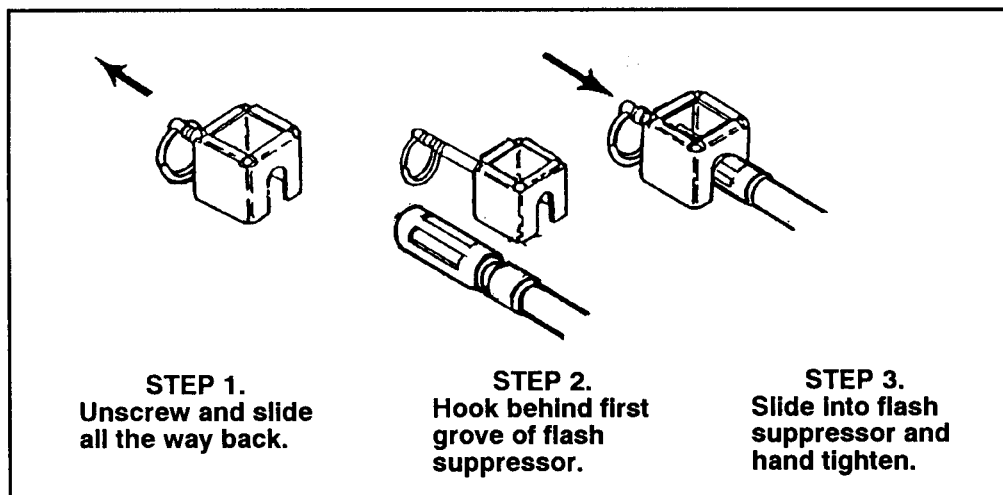

Figure 1-7. M15A2 BFA.
a. **Installation.** The BFA is attached to the M249 AR by using the three steps in Figure 1-7.
- (1) Inspects the weapon for damaged parts, excessive wear, cleanliness, and proper lubrication before firing.
- (2) When feasible, test fires the weapon using ball ammunition before attaching the BFA.
- (3) Adjusts the BFA to fit the weapon.
- (4) Applies immediate action when stoppages occur.
- (5) Cleans the gas system after firing 500 rounds.
- (6) Cleans and lubricates the entire weapon after firing 1,000 rounds.